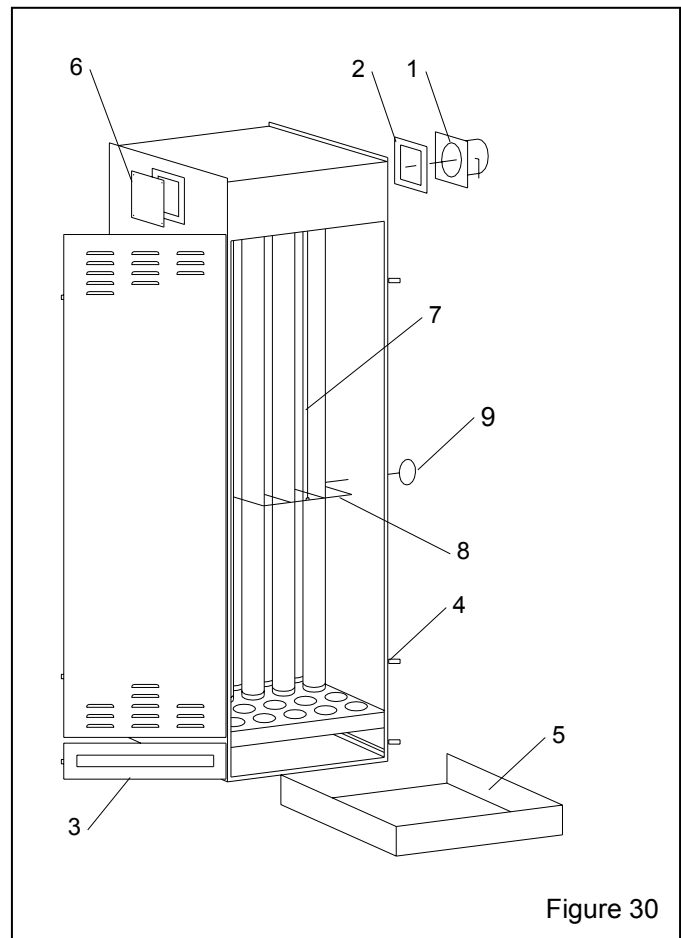

Figure 30
9.10 Dry Filter Dust Collector, Figure 30